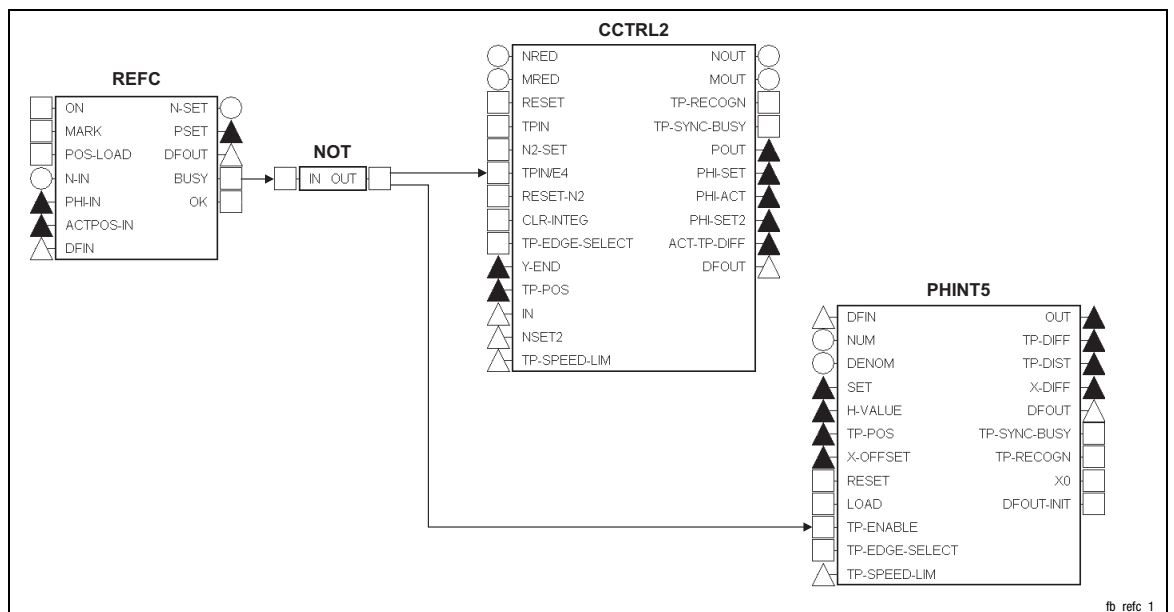

Fig. 3-214
- Fig. 3-214 shows a connection example for deactivating the touch probe function during homing.